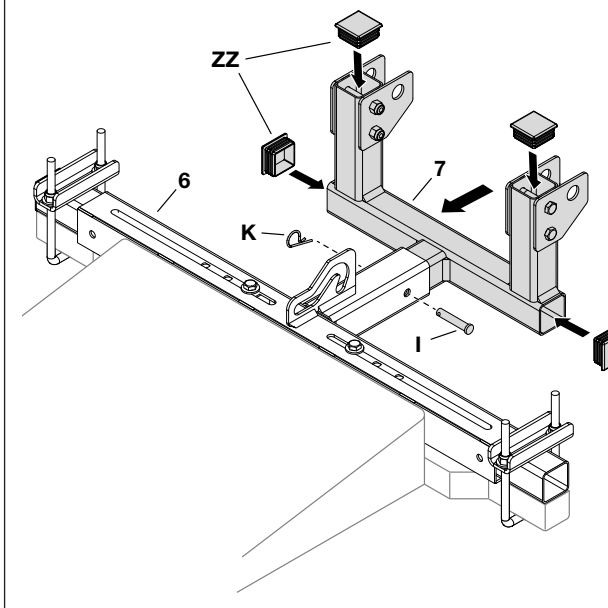

Figure 4
STEP 4: (SEE FIGURE 4)
- Insert the blade mount assembly (7) into the hitch mount assembly tube (6).
- Secure with a clevis pin (I) and a hair cotter pin (K).
- Insert the square plugs (ZZ) into the blade mount assembly (7).